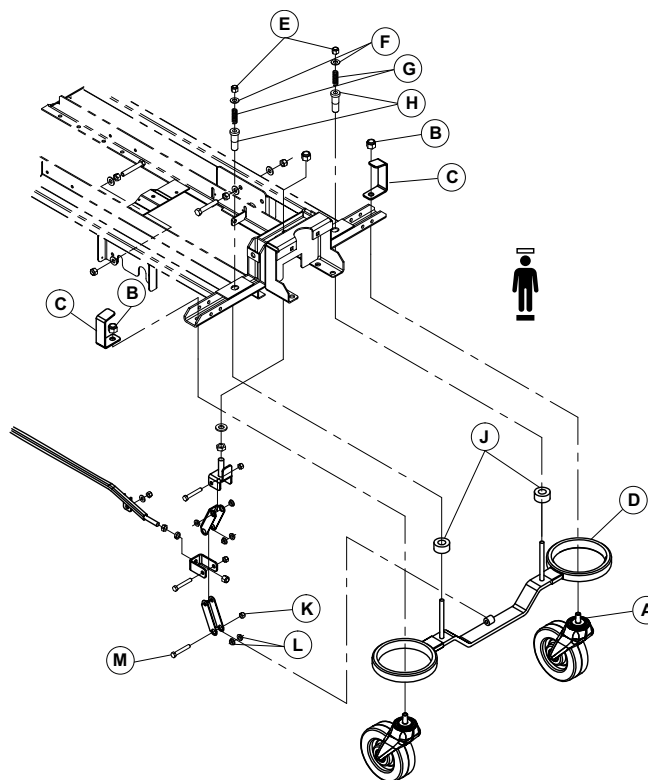

Figure 11 – Brake bar replacement
6. Using a 5/8" combination wrench and 11/16" socket, remove the nut and bolt that secure the caster to the caster horn (A) (Figure 11). Save the nut and bolt.
7. Using a 3/4" socket and 3/4" combination wrench, remove the locknut (B), base hood support (C), caster adjusting socket, washer, and bolt that secure the caster to the base (Figure 11). Remove and save both casters. Save all other parts.
8. Using a 9/16" combination wrench, remove the two locknuts (E), two washers (F), two compression springs (G), two brake rod guides (H), and two stoppers (J) that secure the brake bar rods to the base frame (Figure 11). Save all parts.
9. Using two 1/2" combination wrenches, remove the locknut (K), two shoulder spacers (L), and bolt (M) that secure the brake levers to the brake bar bushing (Figure 11). Remove and discard the brake bar. Save all other parts.